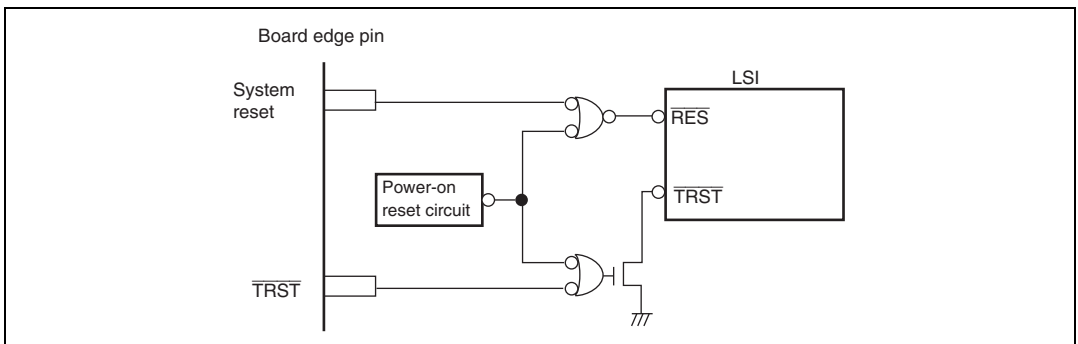

Figure 14.4 Recommended Reset Signal Design
- System circuitry must also be separated from the $\overline{\text{TRST}}$ in order not to affect $\overline{\text{TRST}}$ operation as shown in figure 14.4.